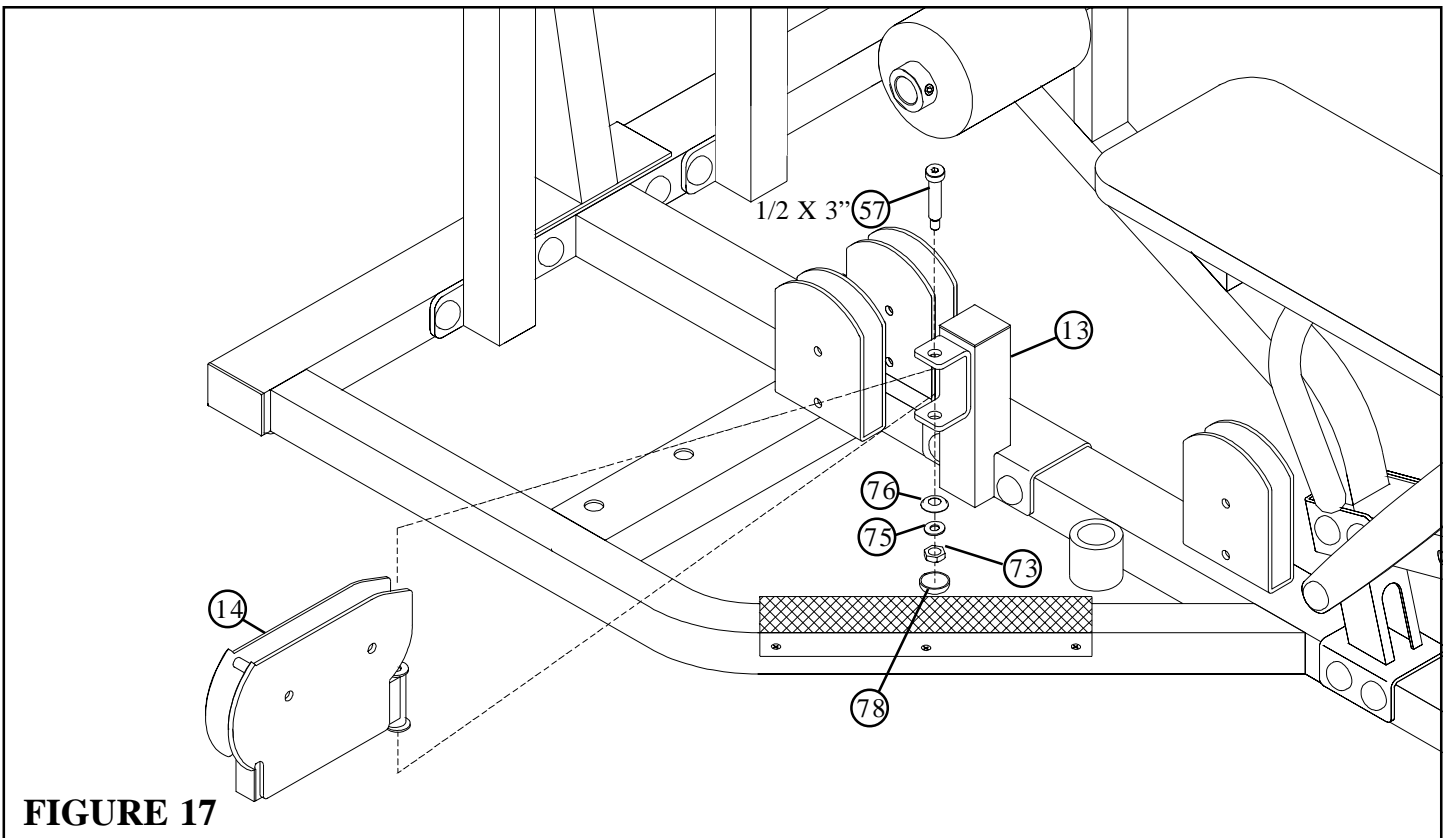

FIGURE 17
- **SECURELY** assemble the SWIVEL (14) to the SWIVEL SUPPORT (13) using one 1/2 X 3" SHOULDER BOLT (57), one 3/8" SAE WASHER (75), one 3/8" RH WASHER (76), one 3/8" LOW HEIGHT LOCK NUT (73) and one RH CAP (78) as shown in FIGURE 17.